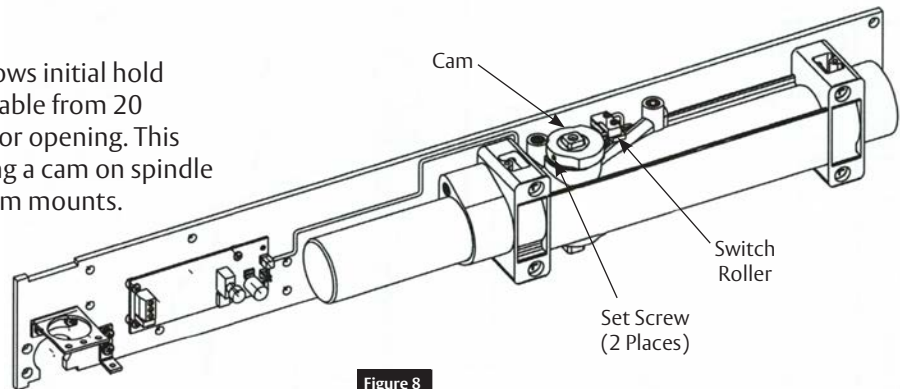

Figure 8
2. Locate switch roller and cam and loosen both set screws in cam. (Figure 8)